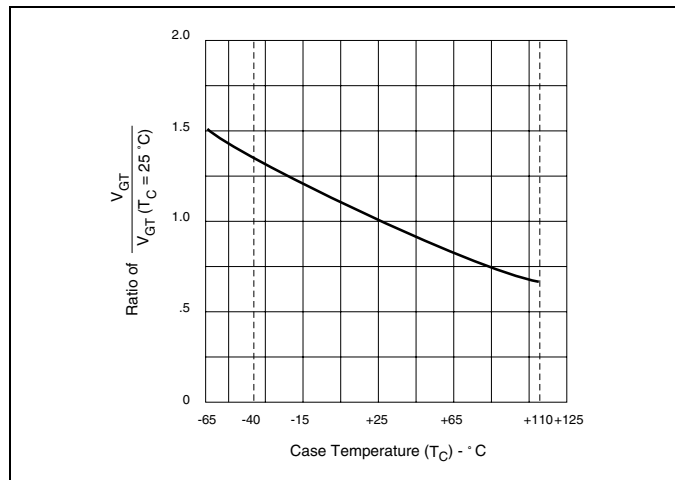

Figure E1.6 Normalized DC Gate Trigger Voltage for All Quadrants versus Case Temperature
- (5) See Figure E1.6 for V_{GT} versus T_C.